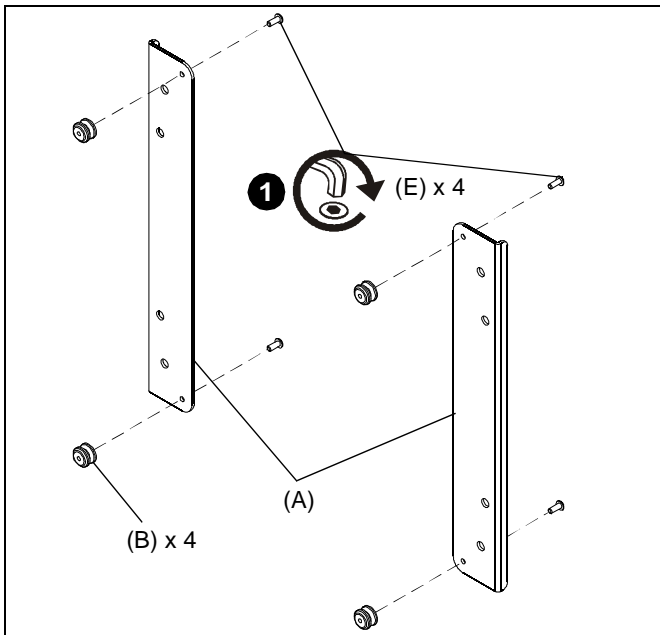

Figure 1
1. Attach mounting buttons (B) to interface brackets (A) using four 10-24 x 1/2" button head cap screws (E) and the 1/8" hex key (H). (See Figure 1)